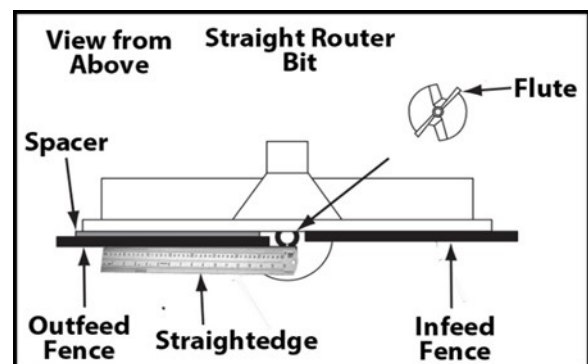

Figure 51
6. Place a straightedge against the outfeed fence and adjust the fence base so the straightedge is also against the flute of the router bit. (Fig.51)
8. Connect the table to the power source and then perform your cut. (Fig.51)